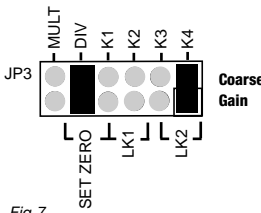

Fig 7
- Put one jumper in the **DIV** position and the other jumper in the **K4** position of header **JP3**: See Fig.7.